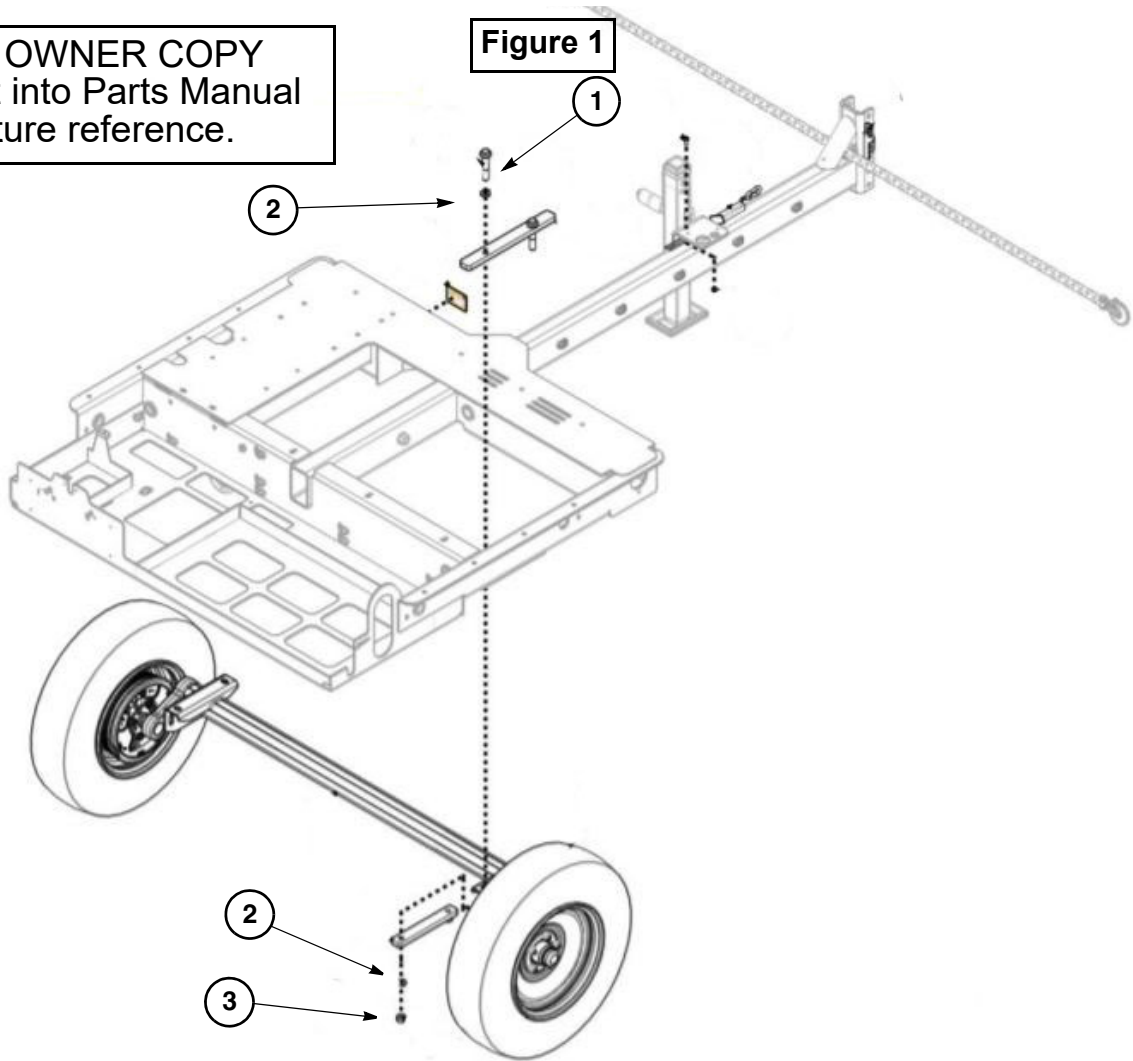

Figure 1 Parts List
4. Using hand tools only, torque the nut (3) to 196 ft-lb (266 Nm). Do not use an impact tool to tighten hardware.
5. Remove Figure 1 and attach it to the invoice or place them in the manual storage box so unit owner can place them with existing Parts Manual.
Kit includes all items in Figure 1 parts list.